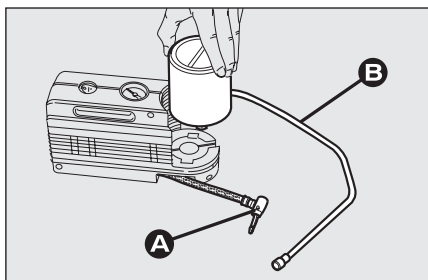

fig. 10
- ☐ disconnect connection **A**-fig. 10;